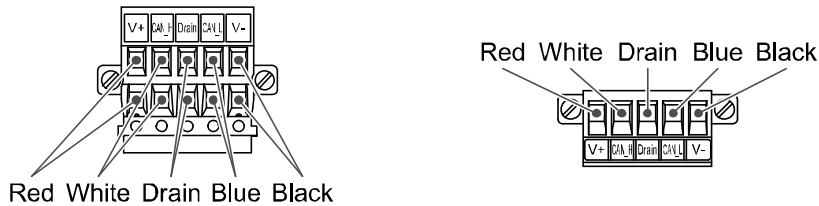

Figure 1
(1) Connect the signal lines to the assigned pins. (Figure 1)